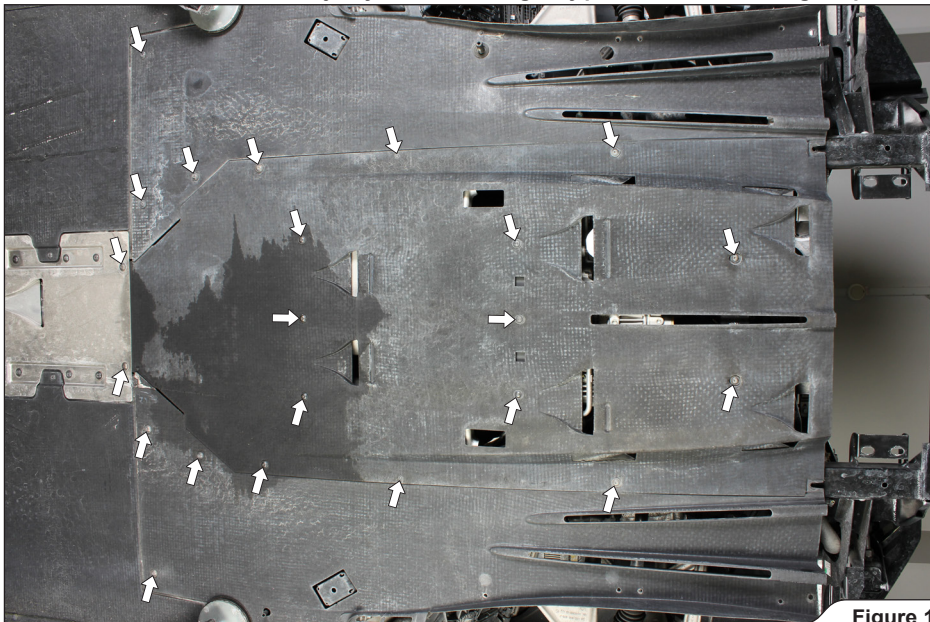

Figure 1
2. Unscrew the marked bolts and remove the middle engine underfloor panel (**Figure 1**).